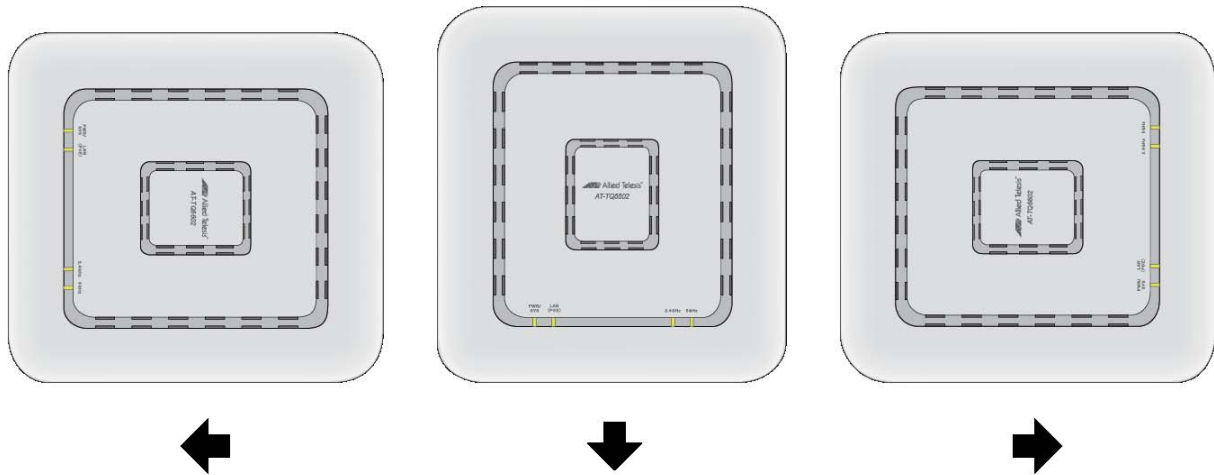

Figure 32. Seating the Wireless Access Point on the Wall Mounting Bracket
2. Slide the wireless access point until its screws are seated in the bracket keyhole slots and the bracket thumbscrew is aligned with the screw hole on the front panel. Refer to Figure 32 on page 62.